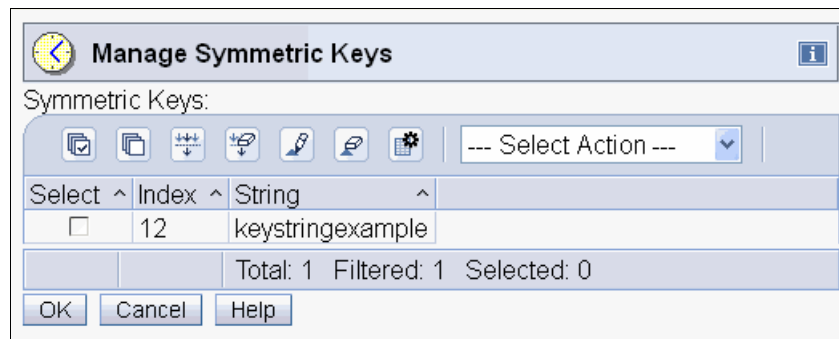

Figure 9-16 HMC: Customize Console Date and Time Saved symmetric key
6. The key is displayed in the Manage Symmetric Keys window (Figure 9-16). You can enter more key data in this window by repeating the previous steps. Click **OK** to proceed if no more keys need to be added.